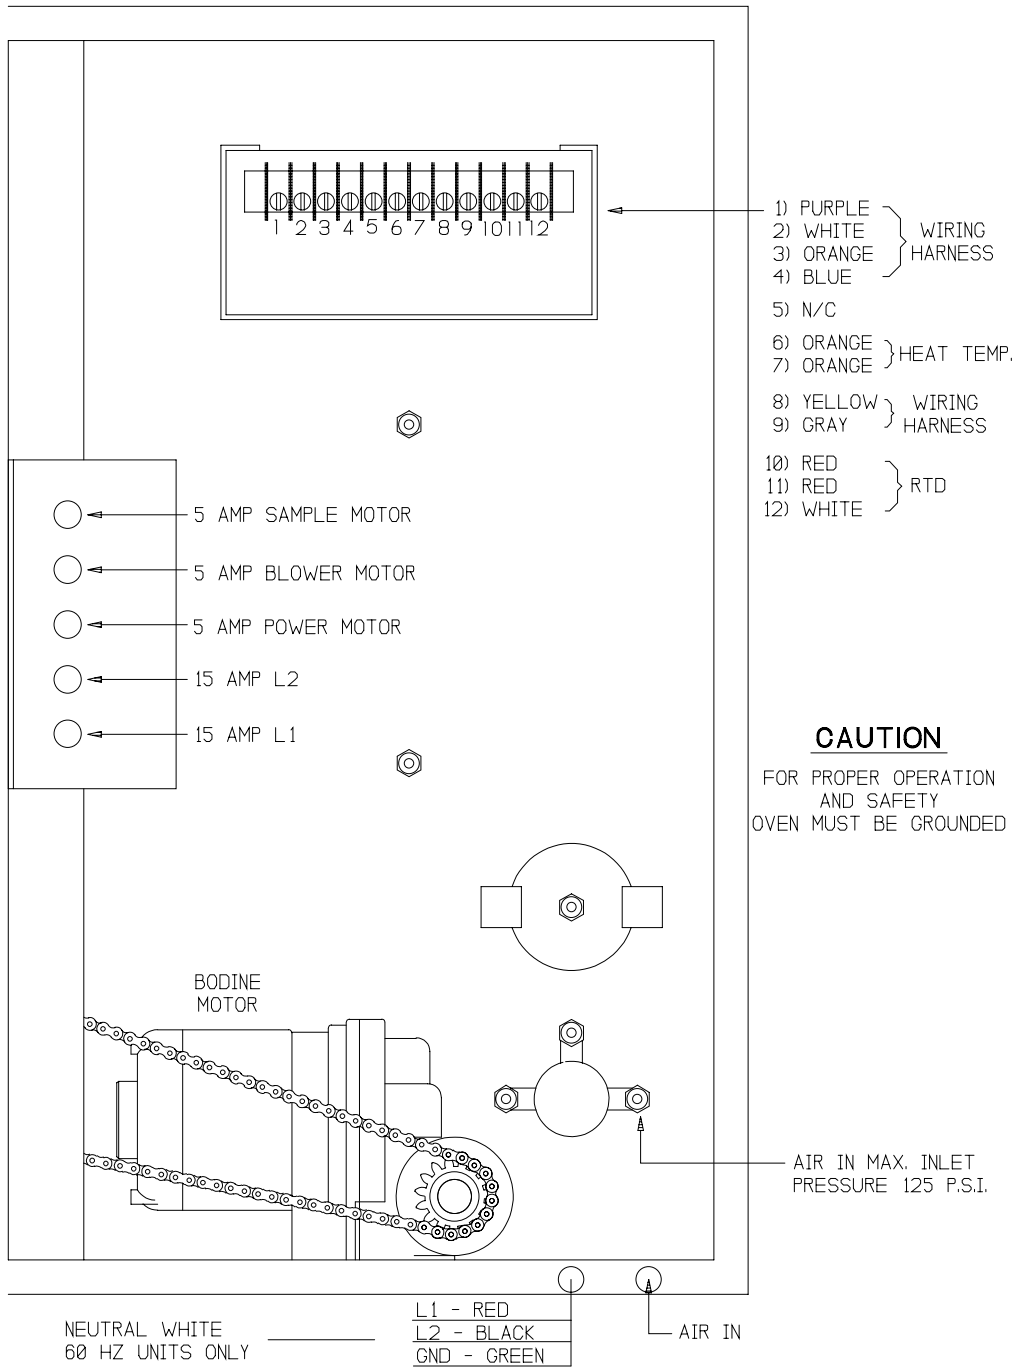

Fig. 2
9.	Control Panel Layout-Back Fig.2